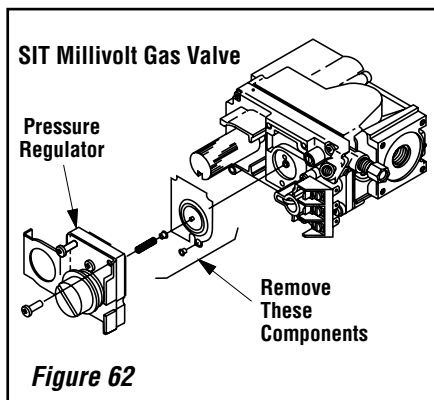

Figure 62
a. See **Figure 62** and the instructions provided with the kit. Using a Torx T20, tool or standard flat screwdriver remove and discard the three pressure regulator mounting screws. Remove the pressure regulator, spring, poppet, diaphragm and bushing. Discard all removed components. Ensure the rubber gasket installed on the back of the replacement pressure regulator is properly positioned and install the new pressure regulator using the new screws supplied with the kit. Tighten screws to 25 In. lb. torque.